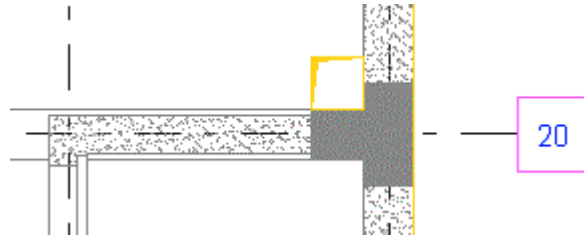

Figure 162: Creation of the first depression
4. Position the first hole next to the **F'20** column as in Figure 162.